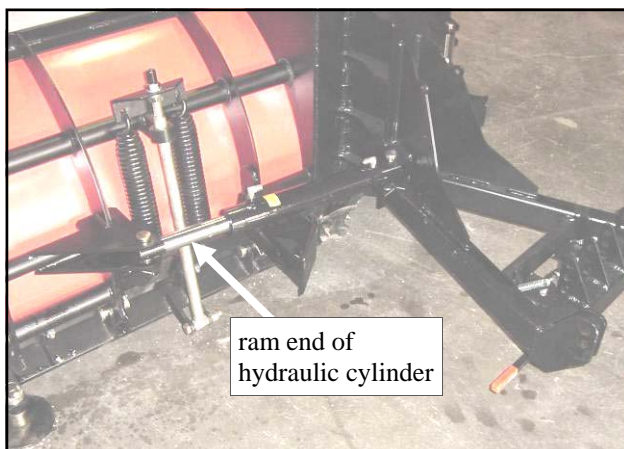

Fig. 2.4 (view of driver's side hydraulic cylinder)
2.4 Per fig. 2.4, repeat step 2.3 for the driver's side. The ram end is to be outboard on the driver's side (on the left in the photo). The ram end uses a 3" long clevis pin. The other end (the stationary end) of the cylinder uses a 3-1/2" long clevis pin. Install cotter pins in both places.